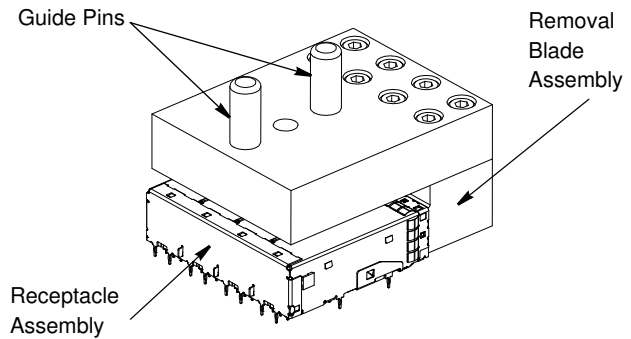

Figure 2
2. Insert the removal blade assembly into the receptacle. See Figure 2.